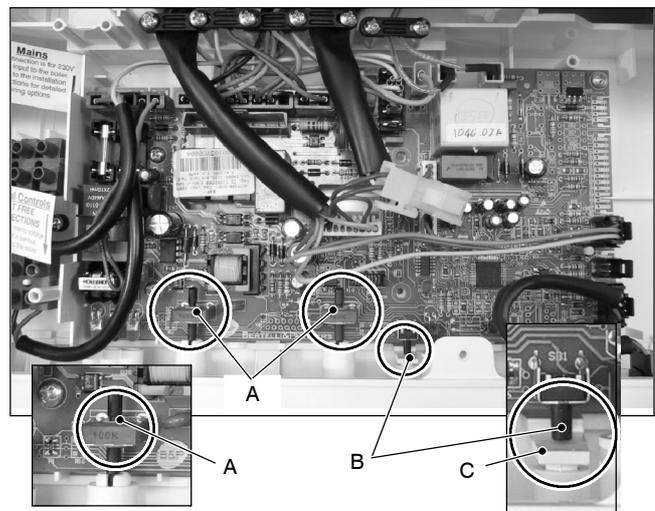

Fig. 24
- 8 Insert the spindles in the control panel knobs until the notch A (Fig. 24) reaches the potentiometer edge. It is not necessary to force them in the knob.
- 9 While tightening the screws that fix the Electronic control/ignition p.c.b. on the control panel, keep the p.c.b. towards the control panel fascia making sure of the contact between the boiler reset button B and the tab C (Fig. 24).